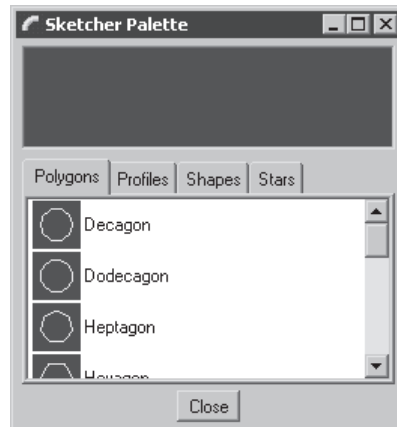

Figure 1-18 The **Sketcher Palette** dialog box
1. Choose the **Insert foreign data from Palette into active object** button from the Sketcher Tools toolbar; the **Sketcher Palette** dialog box will be displayed, as shown in the Figure 1-18. The options in this dialog box will be used to insert a previously created sketch.